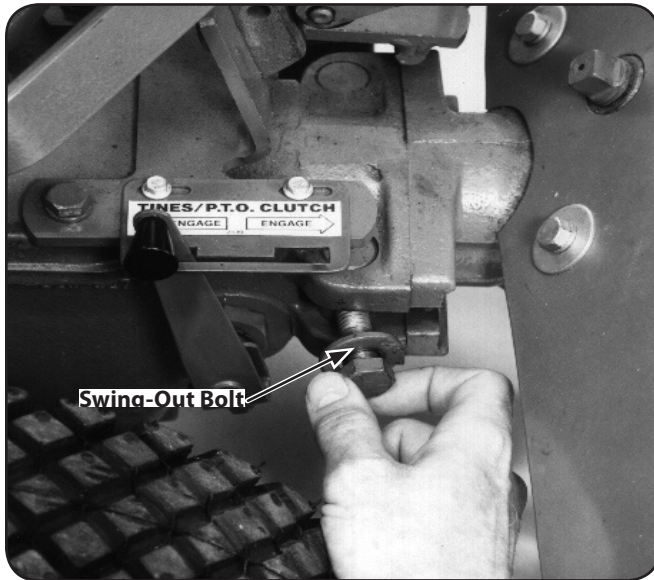

Figure 5-21
- Then move the swing-out bolts out. See Figure 5-21.